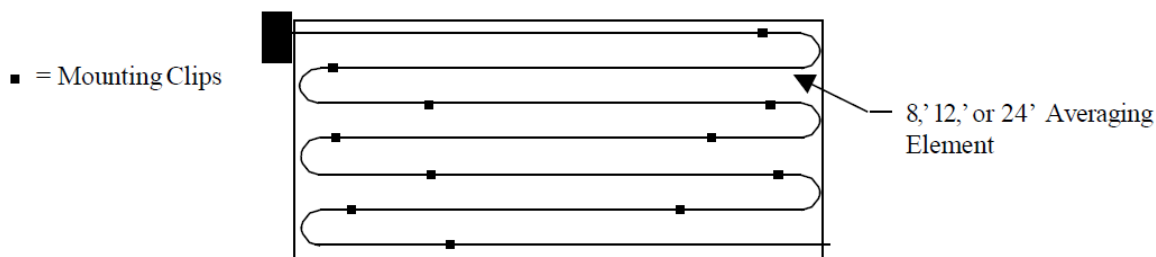

Figure 3
Duct Averaging sensors - Drill a 3/8" hole in the duct and insert the averaging element through the hole until the foam pad is tight to the duct. Now insert the (2) screws through the holes in the mounting flange and tighten until the unit is held firmly to the duct. The sensor should then be strung in a crisscross pattern throughout the duct (see Figure 3) using the mounting clips provided, in a pattern that covers the greatest surface area of the duct, to insure that there is no stratification. When bending the copper tubing, be careful that you use a gradual bend and that you DO not kink the copper tubing.